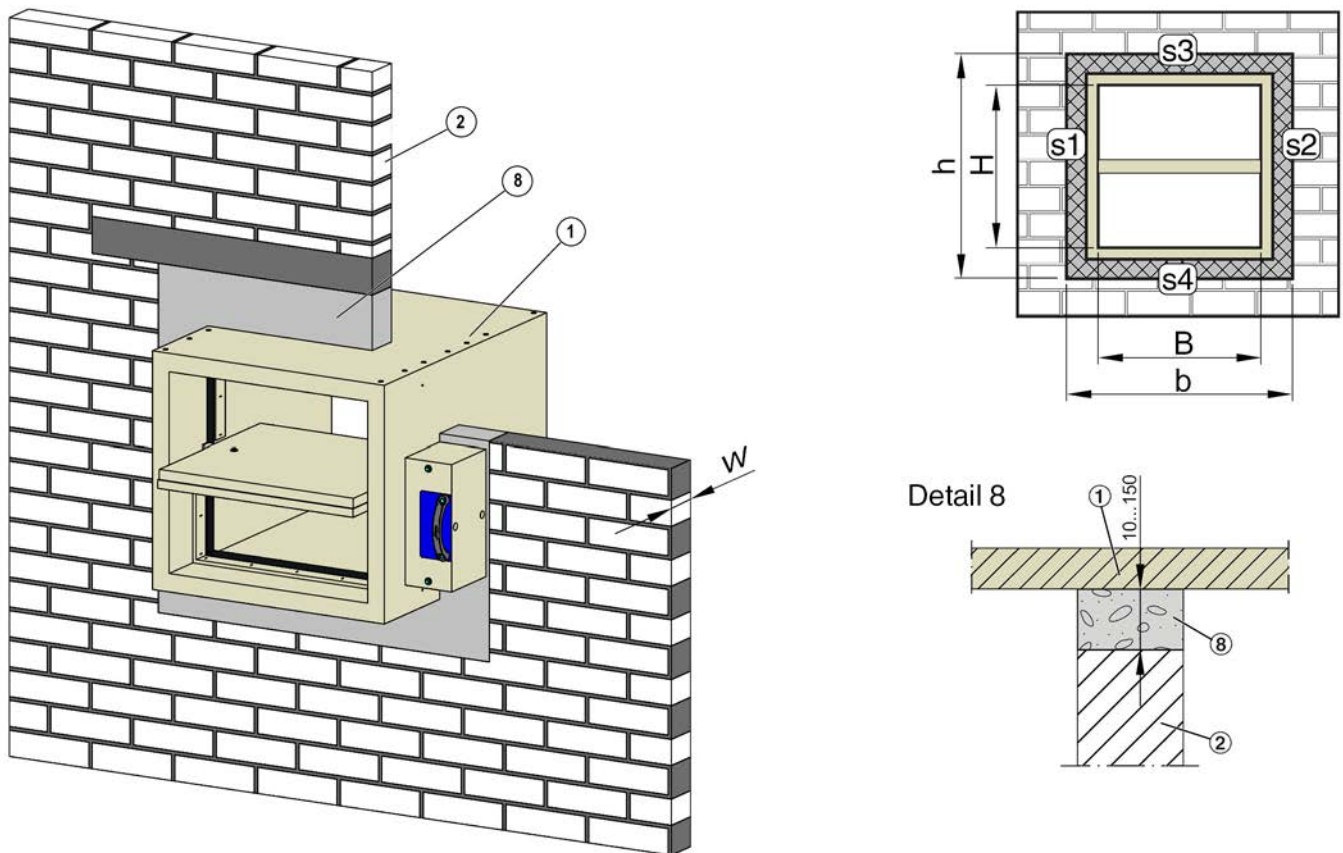

Fig. 14: Wet-dry mortarless installation in solid wall, installation variant a, classification index: v_{ew}
1. ▶ Create an installation opening according to Fig. 14 .